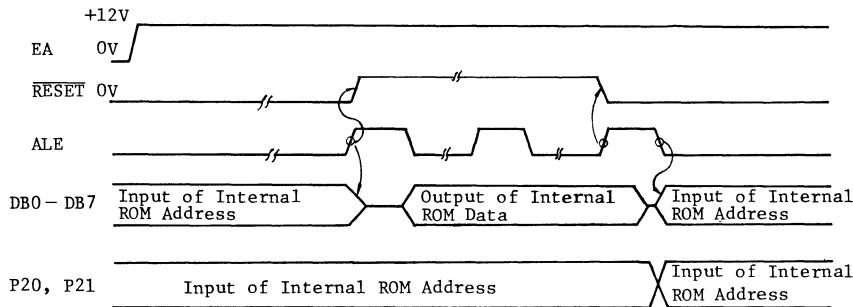

Fig.7 Timing of Rading Internal Program Memory
- Figure 7 illustrates the timing diagram for this operation.
(5) Single Step Operation.